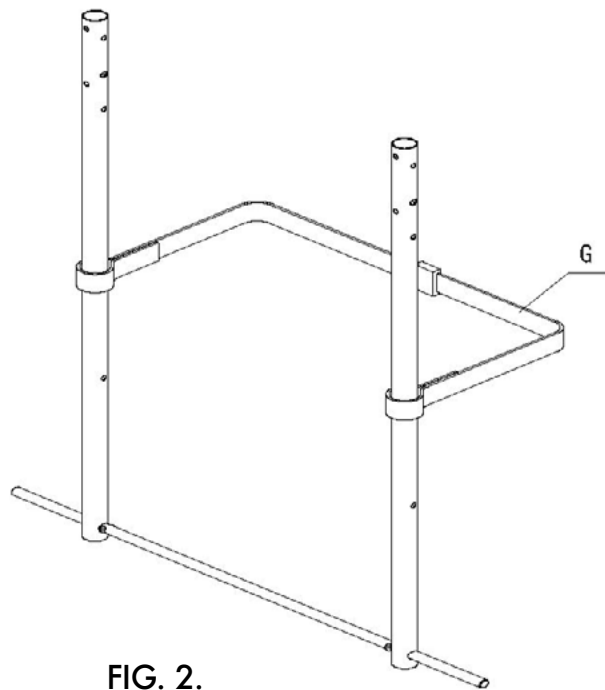

FIG. 2.
Step 2. Insert gas tank strap (G) into vertical straight tube (E). See FIG. 2.